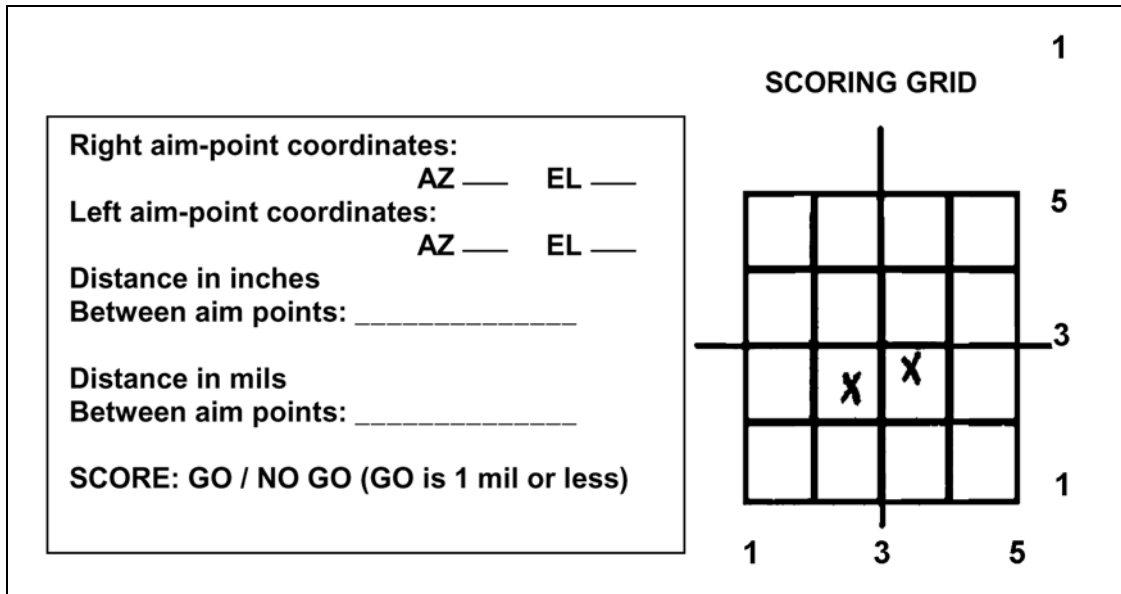

Figure B-35. Distance between aim points, TEST 1.
- (1) Use a ruler that has markings every 1/16 of an inch. A 1/16-scale allows measurement to the nearest 1/8 mil of the scoresheet.
- (2) Measure the distance between the two aiming points marked on scoring grid 1. The distance in this example is 7/16 inch.
- (3) Record the measured distance in the DISTANCE BETWEEN AIM POINTS block of data section 1.
- (4) Score *TEST 1*.
- (5) Record distance in mils between aim points (Figure B-35). See the conversion chart in Table B-1.